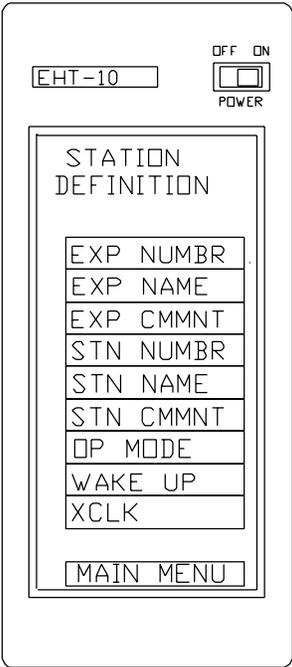

Figure 5 Station Definition Menu
- * Press **Station** on the FST Main menu. The hand terminal displays the Station Definition menu, as shown in figure 5.
- * Press **Station** on the FST Main menu. The hand terminal displays the Station Definition menu, as shown above in figure 5.
- * Press **Station** on the FST Main menu. The hand terminal displays the Station Definition menu, as shown in figure 5, above.